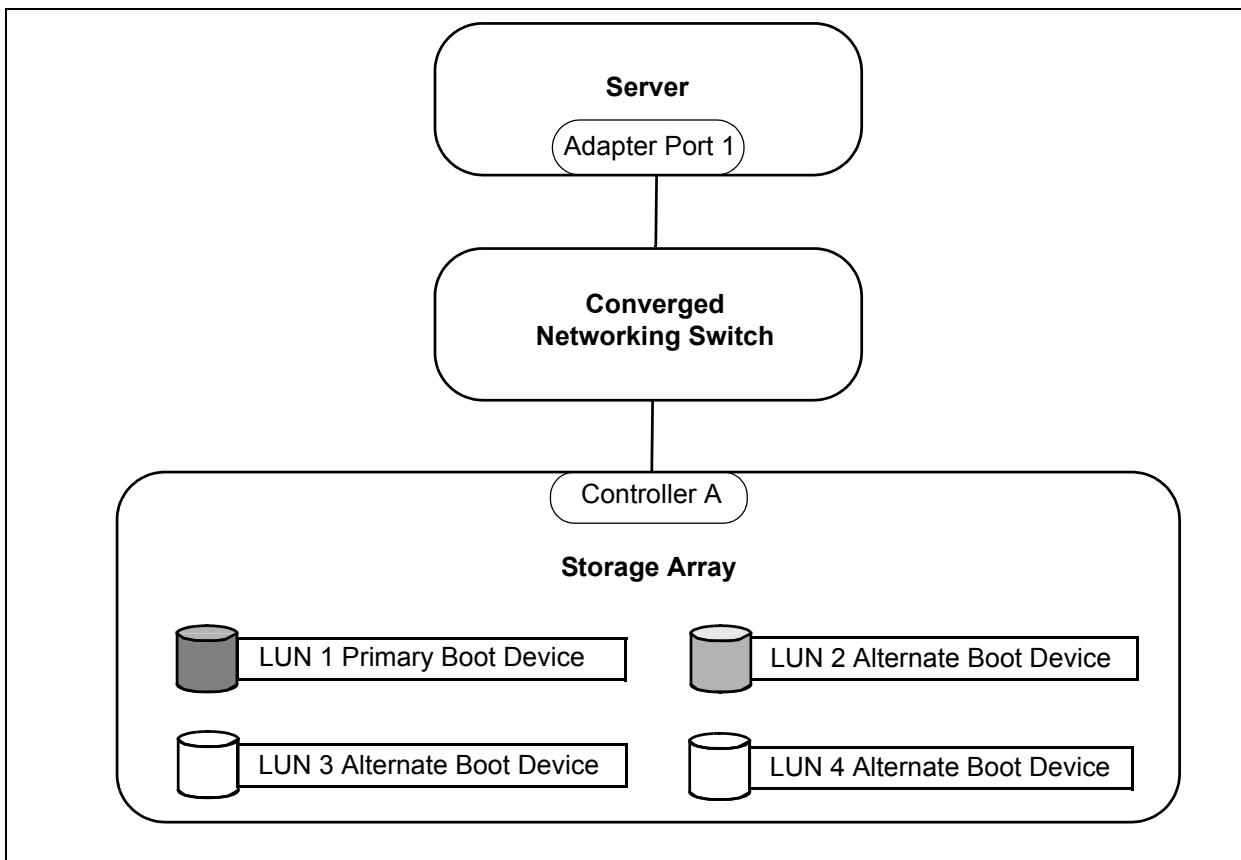

Figure 7-6. Single-Path Topology
However, single-path configuration does offer some degree of fault tolerance because the QLogic 8100 Series Adapter can configure alternate boot LUNs. As shown in Figure 7-6, if the primary boot device (LUN1) fails, or if it is not available at boot time, the QLogic adapter automatically tries to boot from the alternate boot device (LUN2). Up to four alternate boot devices can be configured, which provides failover protection by redirecting the boot device without user intervention.
2. Connect the SAN components in a single-path topology, as shown in Figure 7-6. If a multipath topology is required, make the necessary additions and connections after the initial operating system installation.